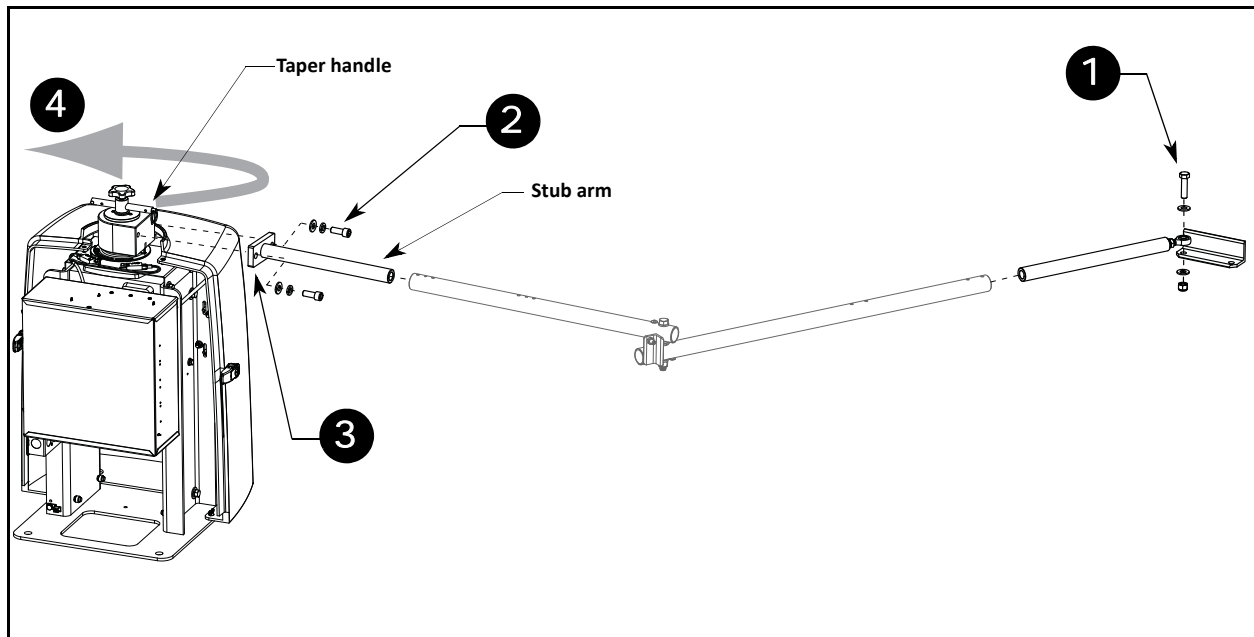

Figure 1-8.
4. Pull the taper handle to lengthen it. Adjust the handle so the ball detent fits into its cutout and secures the handle length. Turn the handle counterclockwise to loosen the taper clamp. Figure 1-8.